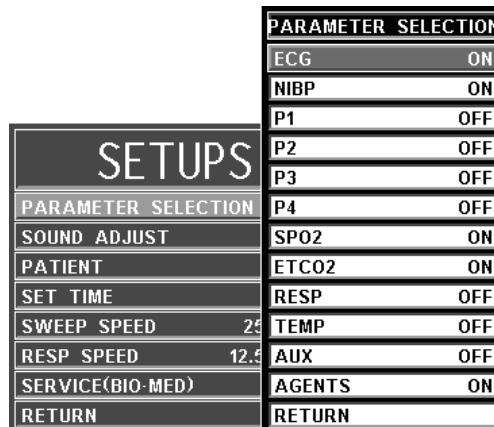

Figure 3-11. The PARAMETER SELECTION Menu
- (1) **Parameter Selection.** To select this menu option, turn the Rotary Knob until the **PARAMETER SELECTION** option is highlighted, then press the Rotary Knob to select. Selecting this menu option will bring up the **PARAMETERS SELECTION** Menu (See Figure 3-11).